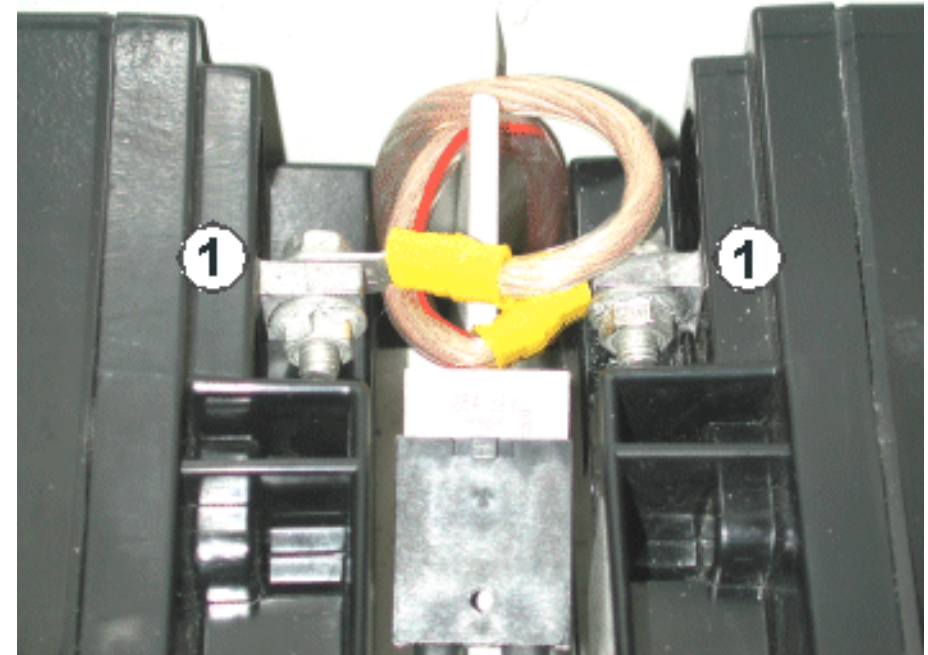

Fig. 8 Cable harness connections
- 10 Use the screws, washers and nuts (Fig. 8/1) to connect the cable harness to the connections of the rechargeable batteries (make sure the polarity is correct!).